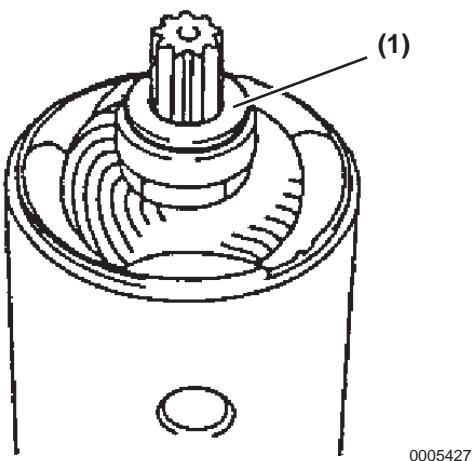

Figure 10-39
10. Install a new felt washer (Figure 10-39, (1)) to the armature.